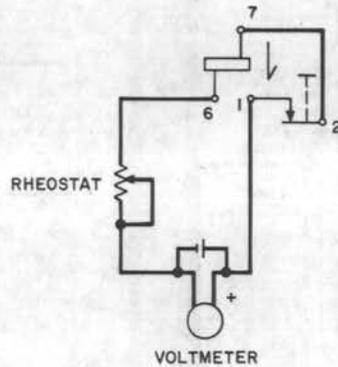

Fig. 42—Checking Circuit—DC Breaker—KS-19943 L12
- (p) **KS-19943:** To check a KS-19943 circuit breaker, proceed in accordance with Methods 1, 2, and 3 as applicable. Refer to Fig. 17, 28, and 31. Check each pole separately as shown by options 1 and 2. To check an L12, apply 3.5 volts per Fig. 42. Relay will trip instantly.